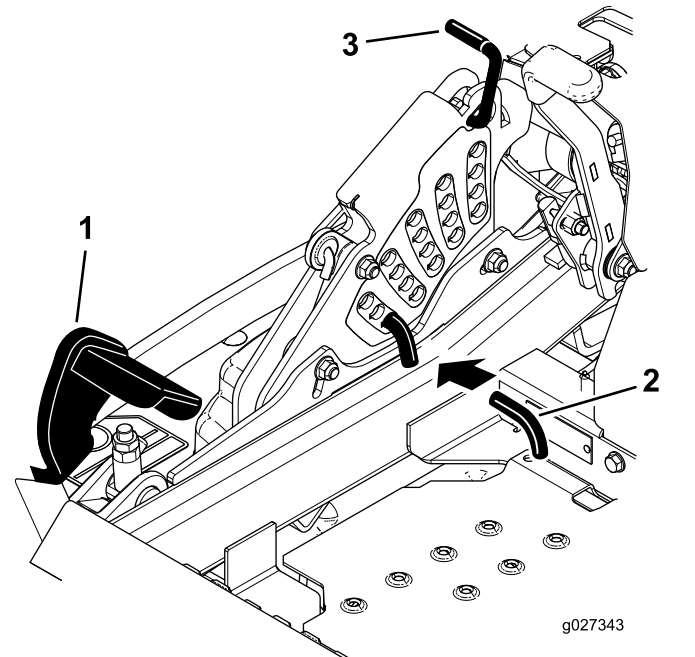

Figure 100
5. Push the deck-lift pedal all the way forward and the deck latches at the 14 cm (5-1/2 inches) transport position (Figure 100).